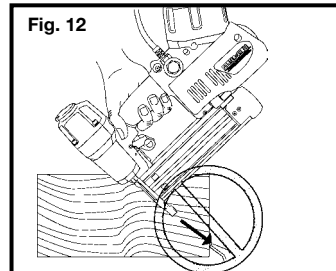

Fig. 12
22. DO NOT DRIVE FASTENERS CLOSE to the edge of the workpiece. The workpiece is likely to split allowing the fastener to fly free or ricochet causing personal injury. Fig. 12.